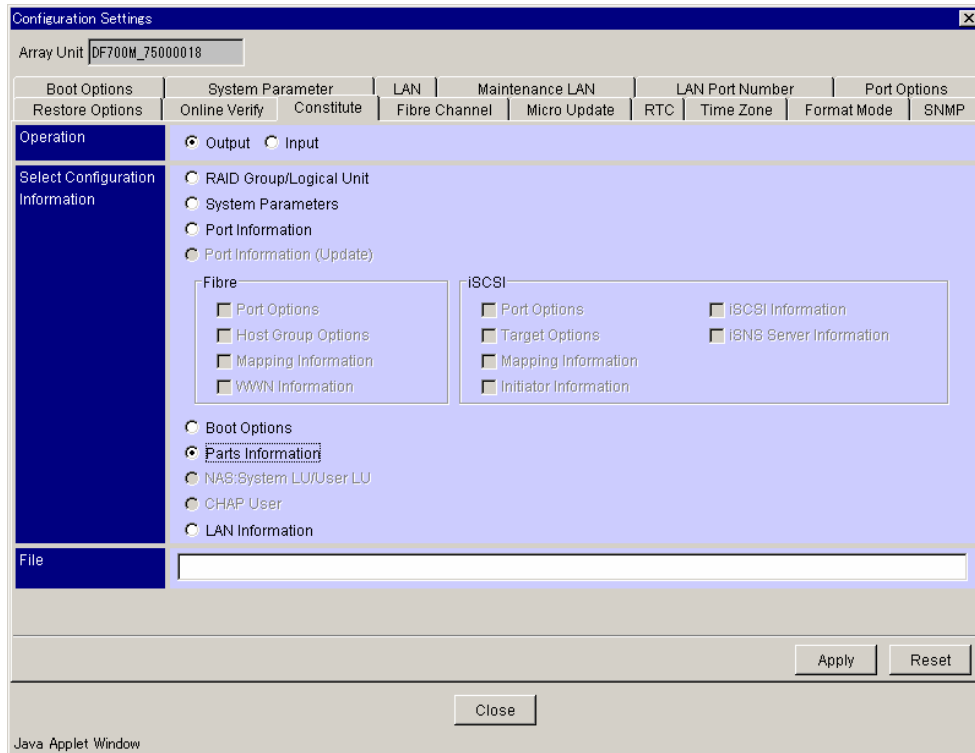

Figure 9.30 Configuration Settings - Parts Info Panel (output)
2. Click the **Constitute** tab. See Figure 9.30.